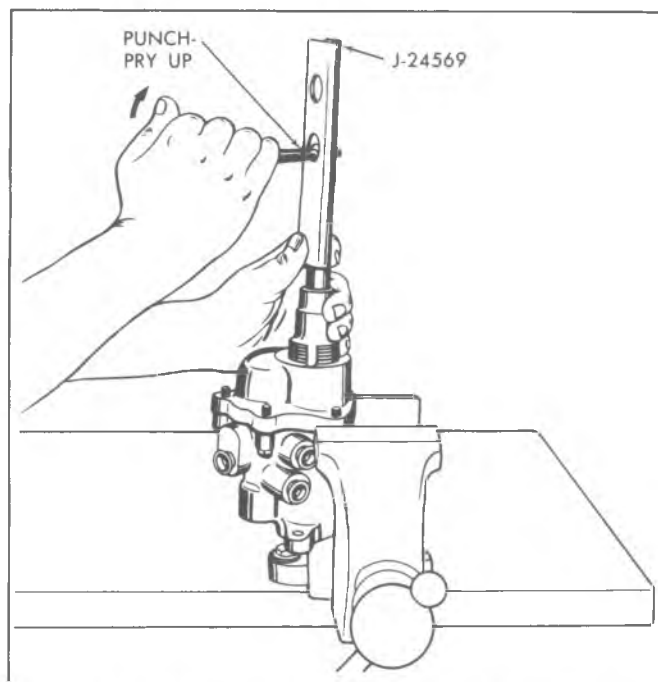

Fig. 5-2E--Removing Booster Pedal Rod (Typical)
3. Place Tool J-24569 around the pedal rod and resting on the input rod end as shown in Figure 5-2E.